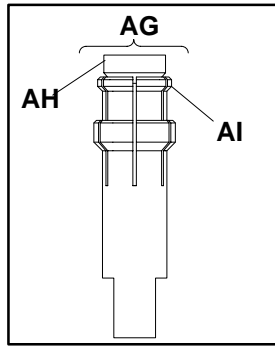
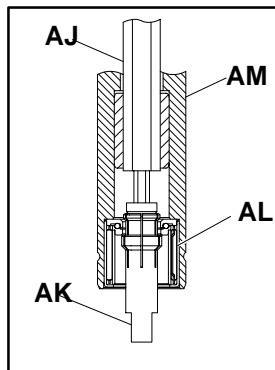

Figure 29
Figure 30
Bearings in pulleys on the 3" (70 mm) and wider conveyors can be removed with Dorner Bearing Removal Tool (AG of Figure 29), part number ‡ 25-05.
1. Make sure that the flair (AI) on the bearing removal tool is completely closed. If it is slightly open it may not fit into the bearing (AL of Figure 30). Use the hex key wrench extension tool (AJ), either part number ‡ 25-08 or ♠ 25-08A and loosen the tapered screw (AH of Figure 29) while compressing the flair (AI) inward to make sure that the tool is completely closed.
2. Insert bearing removal tool (AK of Figure 30) into the pulley (AM) through bearing (AL).